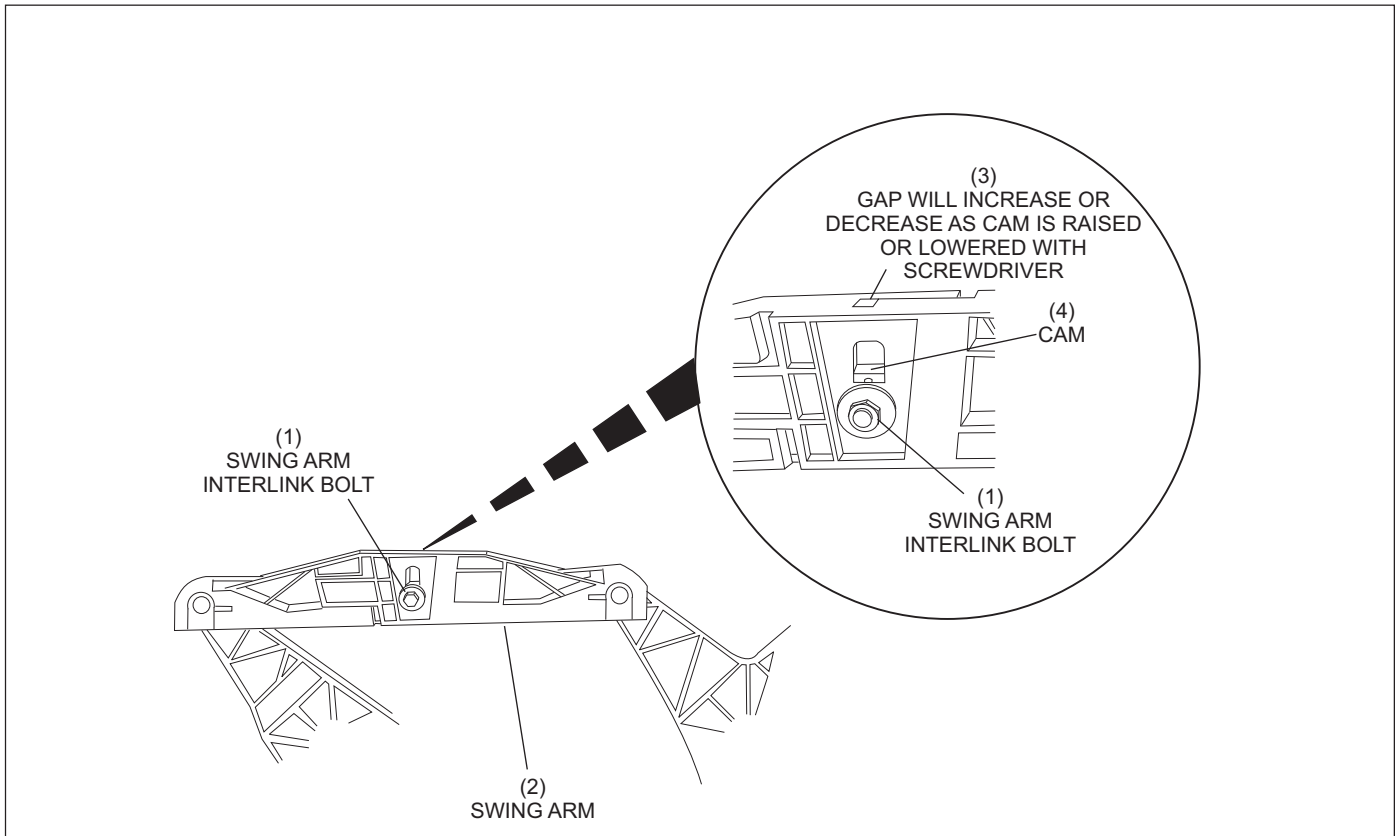

Figure 5-40. Swing Arm Adjustment.
2. To adjust a swing arm position, loosen the swing arm interlink bolt from the arm. See *Figure 5-40*.